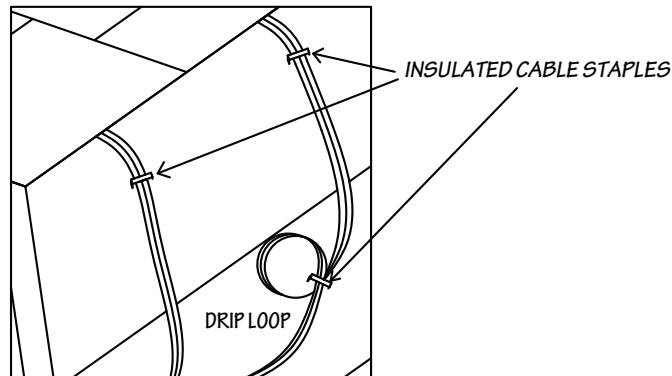

Figure 12. Proper Drip Loop Configuration
12. After connecting the RetroRoof De-Icing System to the controller by using a power cord or hardwiring, se-cure the cord in place with insulated staples to prevent additional stress on the black connectors due to the movement of the cord. It is important to include a drip loop as indicated in Figure 12.
7. After connecting the roof de-icing system to the controller by using a power cord or hardwiring, secure the cord in place with insulated staples to prevent additional stress on the black connectors due to the movement of the cord. It is important to include a drip loop as indicated in Figure 12.